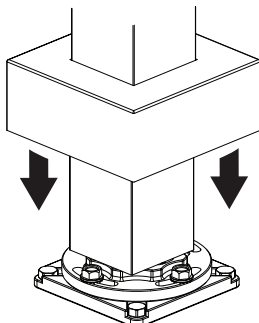

Figure 13
10. Slide the decorative flange over the floor flange until it is flush with the floor as shown in Figure 13.